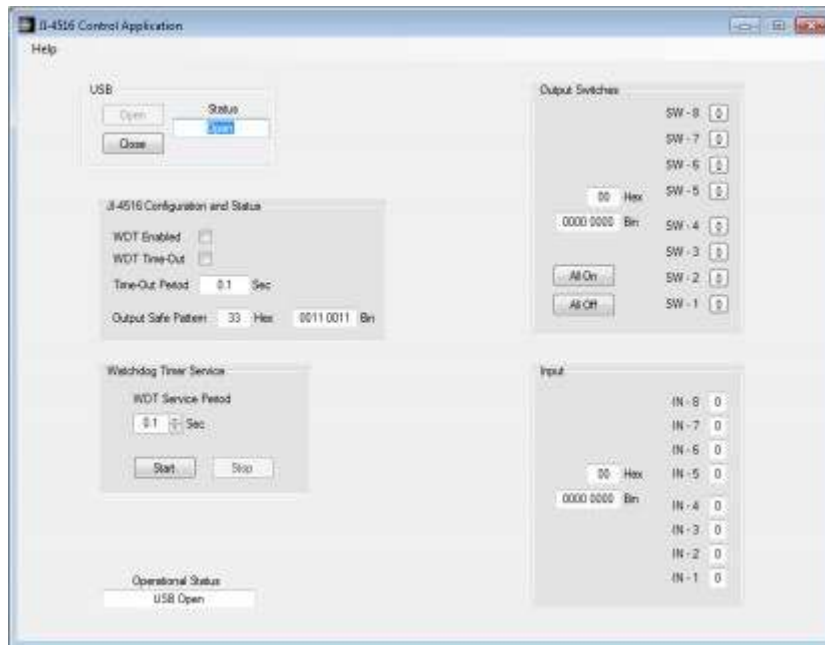

Figure 4.3-1 JI-4516 Control Application Main Window
4. Verify that the application main window is displayed as shown in figure 4.3-1